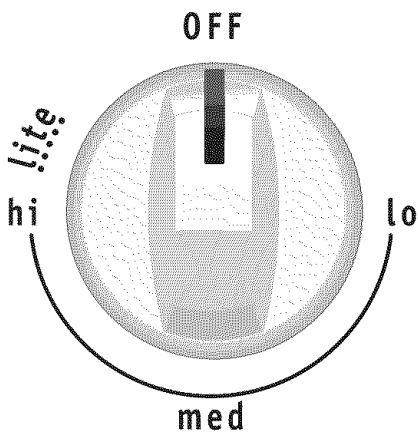

Fig. 1
3. To replace the Burner Heads & Caps, match the letters located under center of Burner Caps with the letters located inside Burner Heads (Fig. 1).
4. Match Burner Skirts with Burner Heads and Burner Caps (see Fig. 1). Replace the Burner Heads and Caps on cooktop (see Fig. 2). Carefully align the Electrodes into slot or hole of each Burner Head (Fig. 3). Note: The Burner Heads should sit flat on Cooktop Burner Skirts.
3. Release the knob and rotate to the LITE position (see fig. 1). Note: All four electronic surface ignitors will spark at the same time. However, only the burner you are turning on will ignite.